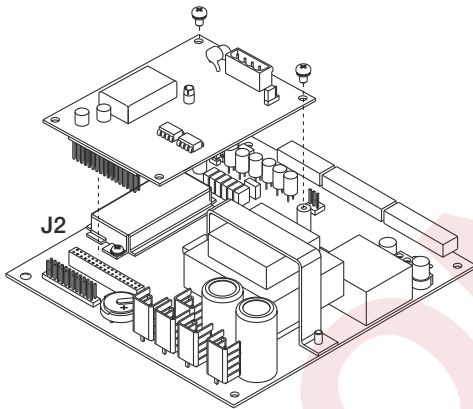

Figure 1. Installing Option Card Onto CPU Board
3. Carefully align the large option card connector with connector J2 on the CPU board (see Figure 1). Press down to seat the option card in the CPU board connector.